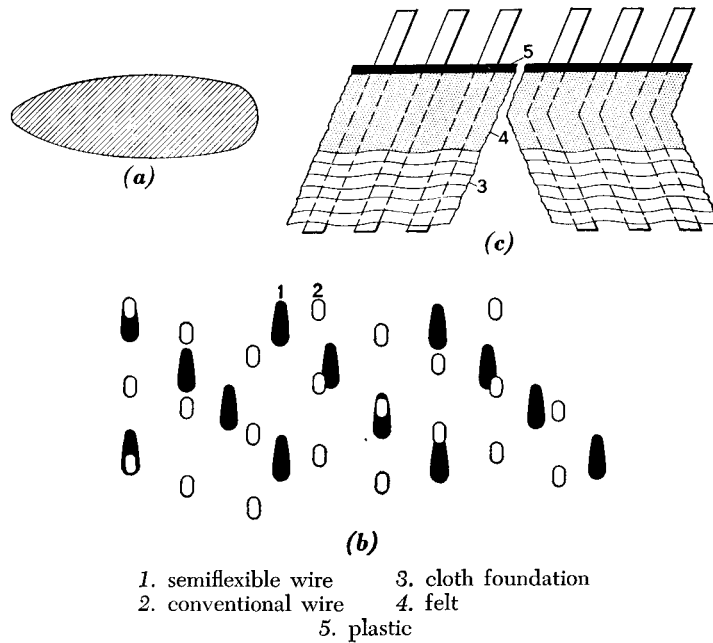

FIG. 27. SECTIONS OF SEMIFLEXIBLE CLOTHING
58. A useful set of data has been compiled by the Benjamin Booth Company about the Strip-O-Matic clothing manufactured by that organization. In Fig. 27 (*a*) an enlarged cross section of the wire is shown. Note the elongated and streamlined shape. This shape gives strength to the wire, while leaving room between the wires for the stock to be carded. If you call to mind what you have learned about the influence of air currents in carding, you'll understand why the streamlining of the wires may well help to reduce fly.
In sketch (*b*), Fig. 27, the teeth of the Strip-O-Matic clothing are superimposed on the teeth in regular flexible clothing. The
A section through the clothing is shown in sketch (c), Fig. 27. The wires may be straight, as shown on the left of this sketch, or they may have a knee, as shown on the right. In either case the wire has a certain amount of flexibility, but that of the knee wire is greater. The foundation has, at the bottom, several woven plies similar to those found in conventional clothing. Over this base is a thick layer of felt. This embeds the wire, yet allows a limited amount of flexibility.
Benjamin Booth Co., Philadelphia 34, Pa. Card clothing. (The original sketches for Fig. 27 were made available by this company.)